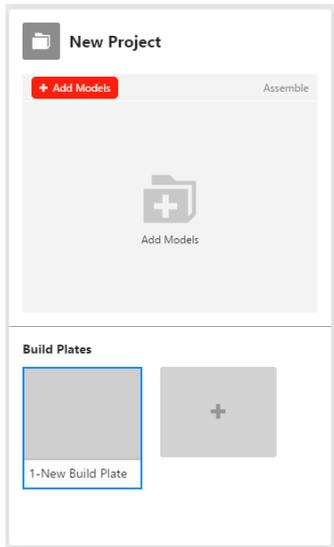

Figure 1: New Project Dialogue Box
i.) Open up a 'New Project' by loading a '.stl' file into the MakerBot Print software shown in Figure 1 above. Clicking